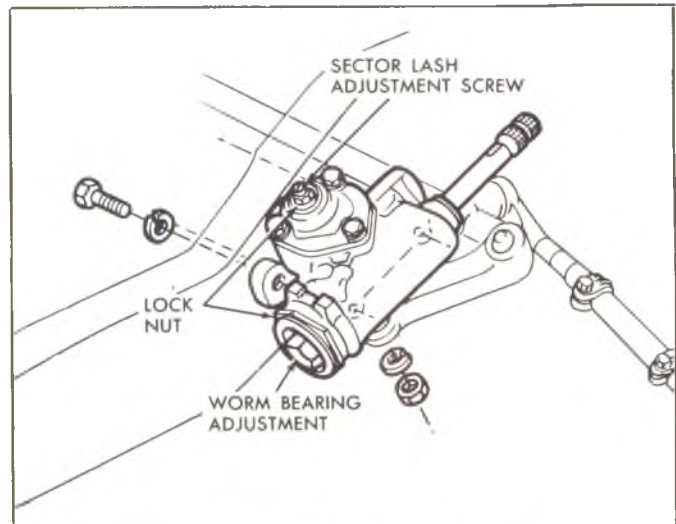

Fig. 33—Steering Gear Adjustment Points - Typical
4. Loosen the steering gear adjuster plug locknut and back the adjuster plug off 1/4 turn (fig. 33).